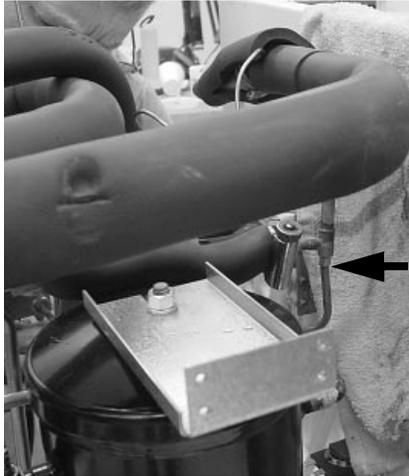

Figure 37. Unit Rear
37. Protecting the plastic bulkheads, and securing the insulation away from the joint and braze the high side service line into the Heat Exchange Suction Line assembly (Figure 37).